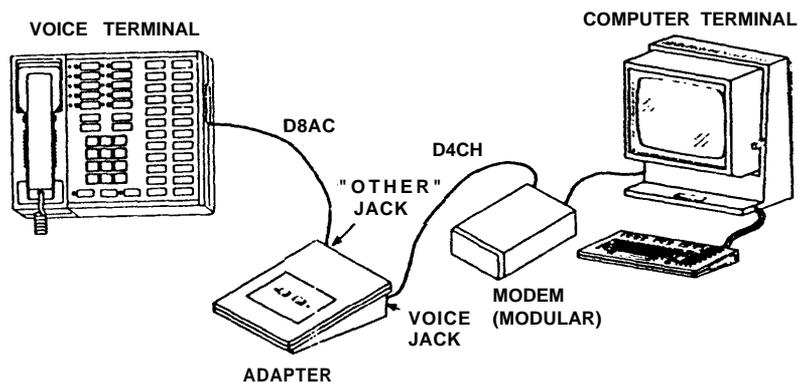

Figure 2
1. Connect the modular cord (D4CH) from the modem to the VOICE jack on the back of the adapter (Figure 2).